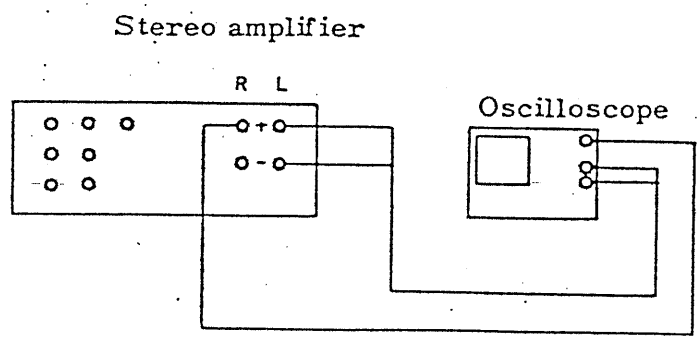

Fig. 5
(2) Monitor of output signal of stereo amplifier (See Fig. 5)